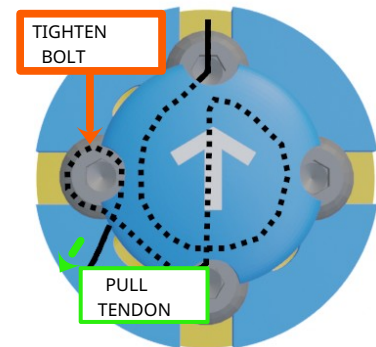

Figure 5.58: Extension end – Pulling and fastening
3. While holding the tendon pulled with manual assembly pliers, tighten the bolt well with the wrench to lock the tendon (figure 5.58)